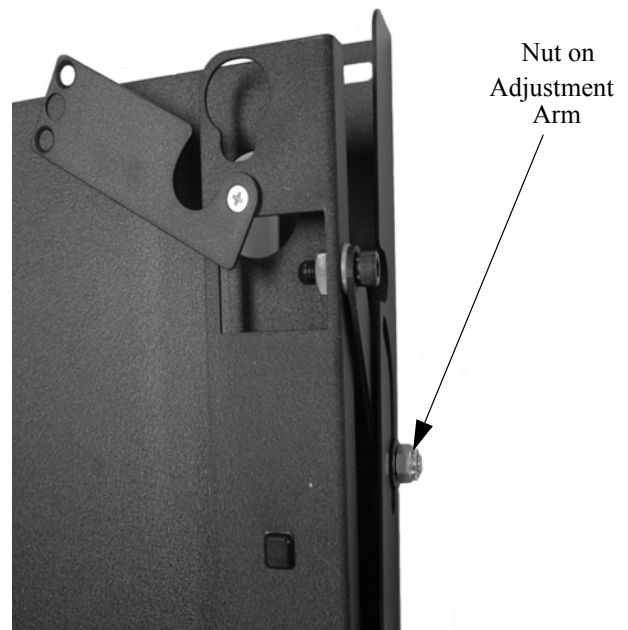

Figure 4. Adjustment arm
1. Loosen the nut and socket head cap screw, slightly, on each adjustment arm (Figure 4).
3. Tighten the nut and socket head cap screw on each adjustment arm (Figure 4).